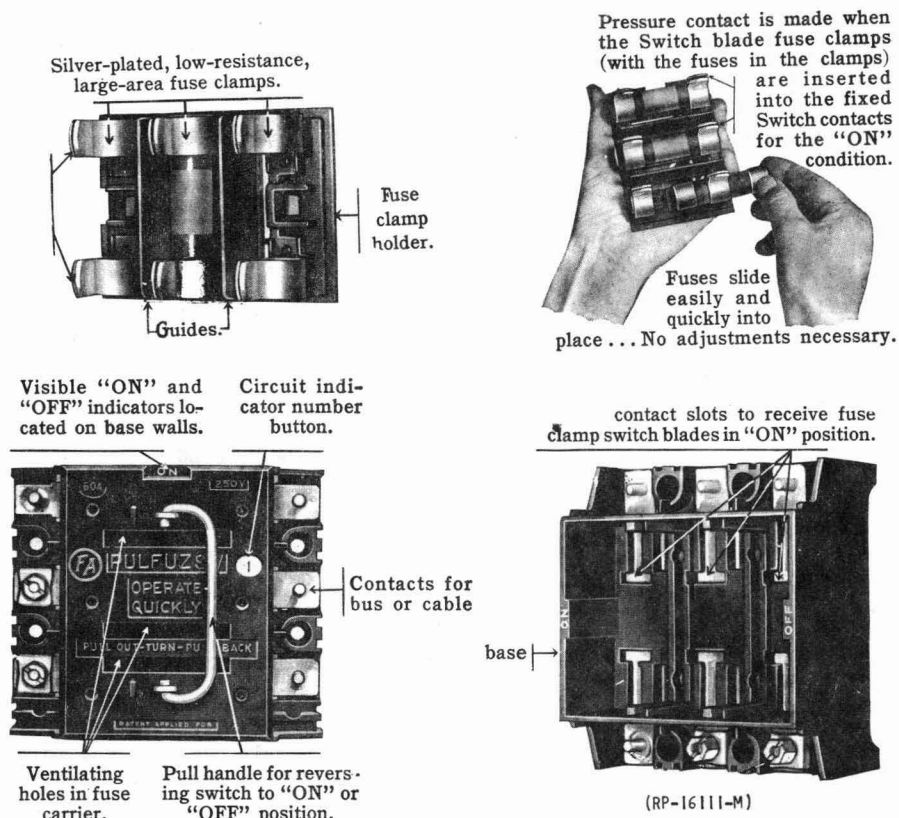

FIG. 2 PULFUZSW (FRANK ADAMS)
1.43 SAF-TO-FUSE and PULFUZSW units are provided with fuse test holes through the dead front, or head, of each unit. This permits testing of the fuse without removing it from the circuit, by the insertion of test leads in these holes. (See Figures 2 and 3).